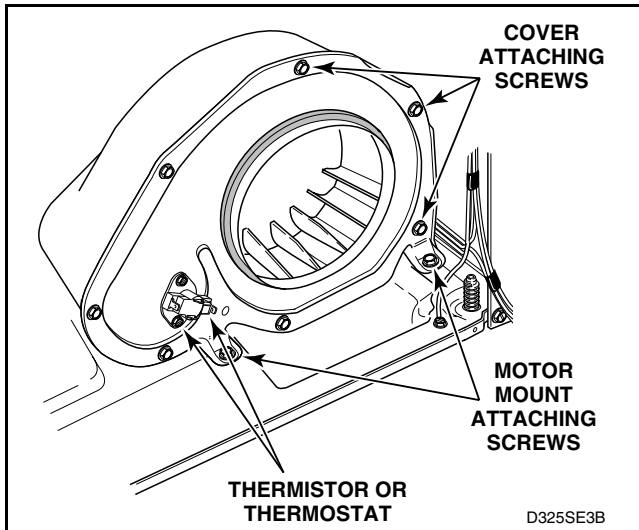
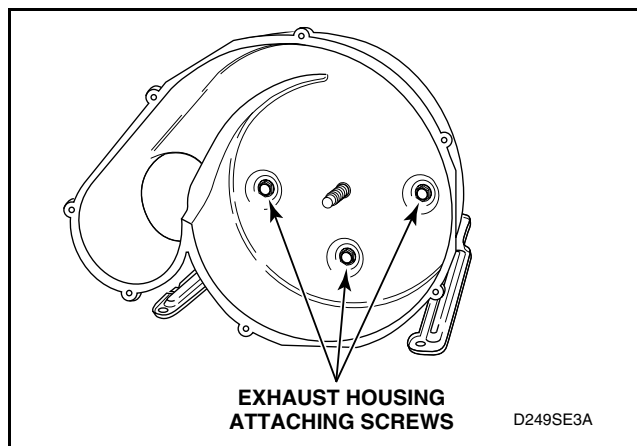

Figure 28
Figure 31
IMPORTANT: When reassembling, be sure seal on exhaust fan cover makes airtight seal on flange of duct. Refer to *Figure 28*. If the seal is installed improperly, the airflow through the exhaust system will be restricted, which can adversely affect dryer performance.
- Remove two screws holding motor mounting bracket to dryer base. Refer to *Figure 28*.
- (1) Remove screws holding cover to housing. Refer to *Figure 28*.
- (2) Hold motor pulley securely and unthread impeller from motor shaft (right hand thread). Use a 7/8 inch, 6 point socket to aid in the removal of the impeller.
- (3) Remove three screws holding the exhaust housing to the motor mounting bracket. Refer to *Figure 31*.